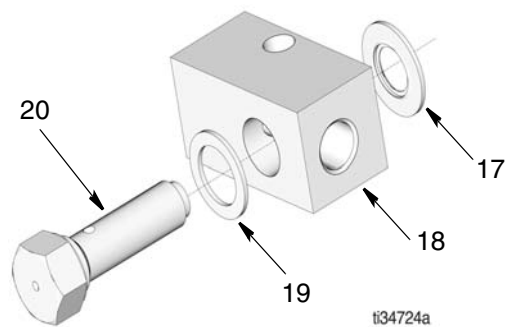

FIG. 3
7. Remove steel gasket (19), manifold (18) and bonded washer (17) from adapter bolt (20) (FIG. 3).